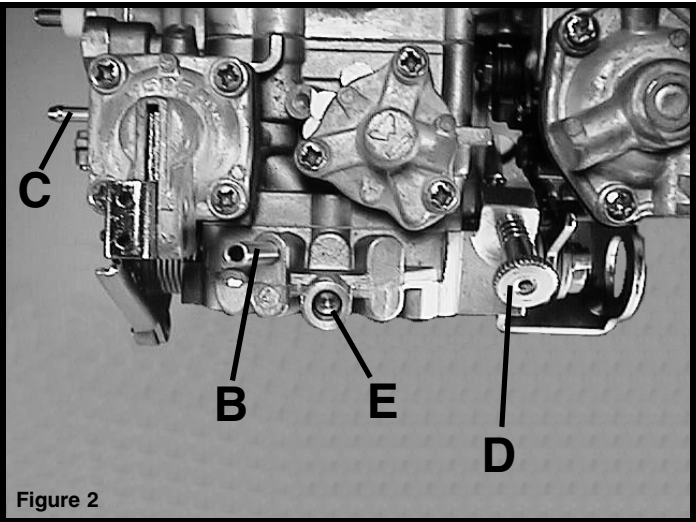

Figure 2
- Reconnect the vacuum advance pipe to the carburettor spark port [B] (figure 2).
- Reconnect the vacuum pipe/capsule assembly from the original carburettor between the throttle jack diaphragm pipe [C] (figure 2) and the vacuum pipe adjacent to the idle mixture screw [B] (figure 2).